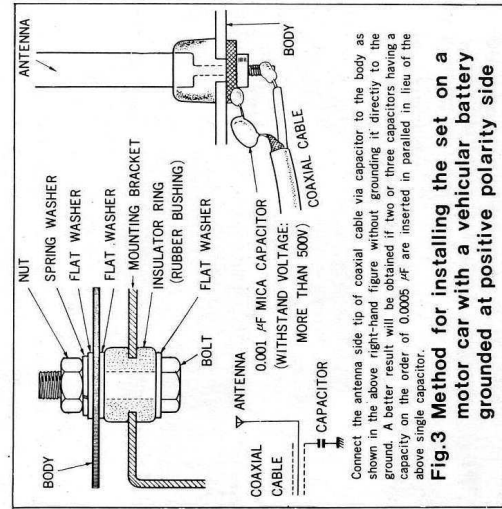

Fig.3 Method for installing the set on a motor car with a vehicular battery grounded at positive polarity side
Mount the set to the mounting bracket in the same manner as described in item 3 above and then bolt the bracket to the body of the car using four insulator rings in addition to the bolts and nuts and the spring and flat washers to insulate the set electrically from the body of the car as illustrated in Fig. 3. In this case, the antenna should also be insulated from the body. This may be accomplished